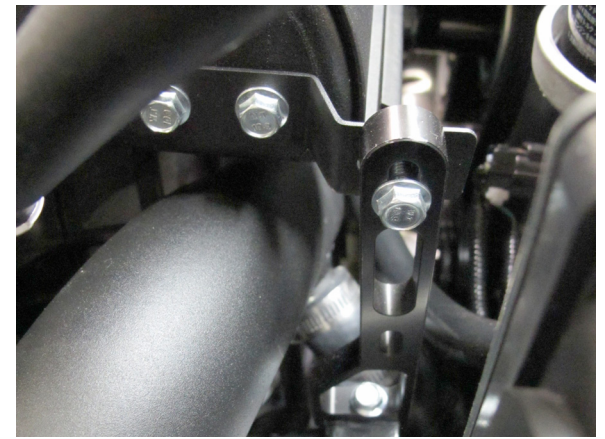

Fig. 10C
- E. Install the airbox assembly onto the supercharger inlet and vehicle. Align the airbox to the mounting holes, forward facing inlet duct and previously installed airbox mounting bracket. See Figs. 10C, 10D, 10E. Use two (2) of the OEM screws to secure the airbox to the forward OEM mount locations. Secure the tab located on the driver side using the supplied M6 x 20 screw and nut.